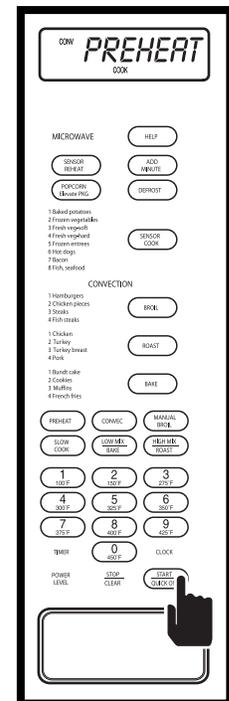

Figure 3-80.
6. Press QUICK ON/START key. (See Figure 3-80)